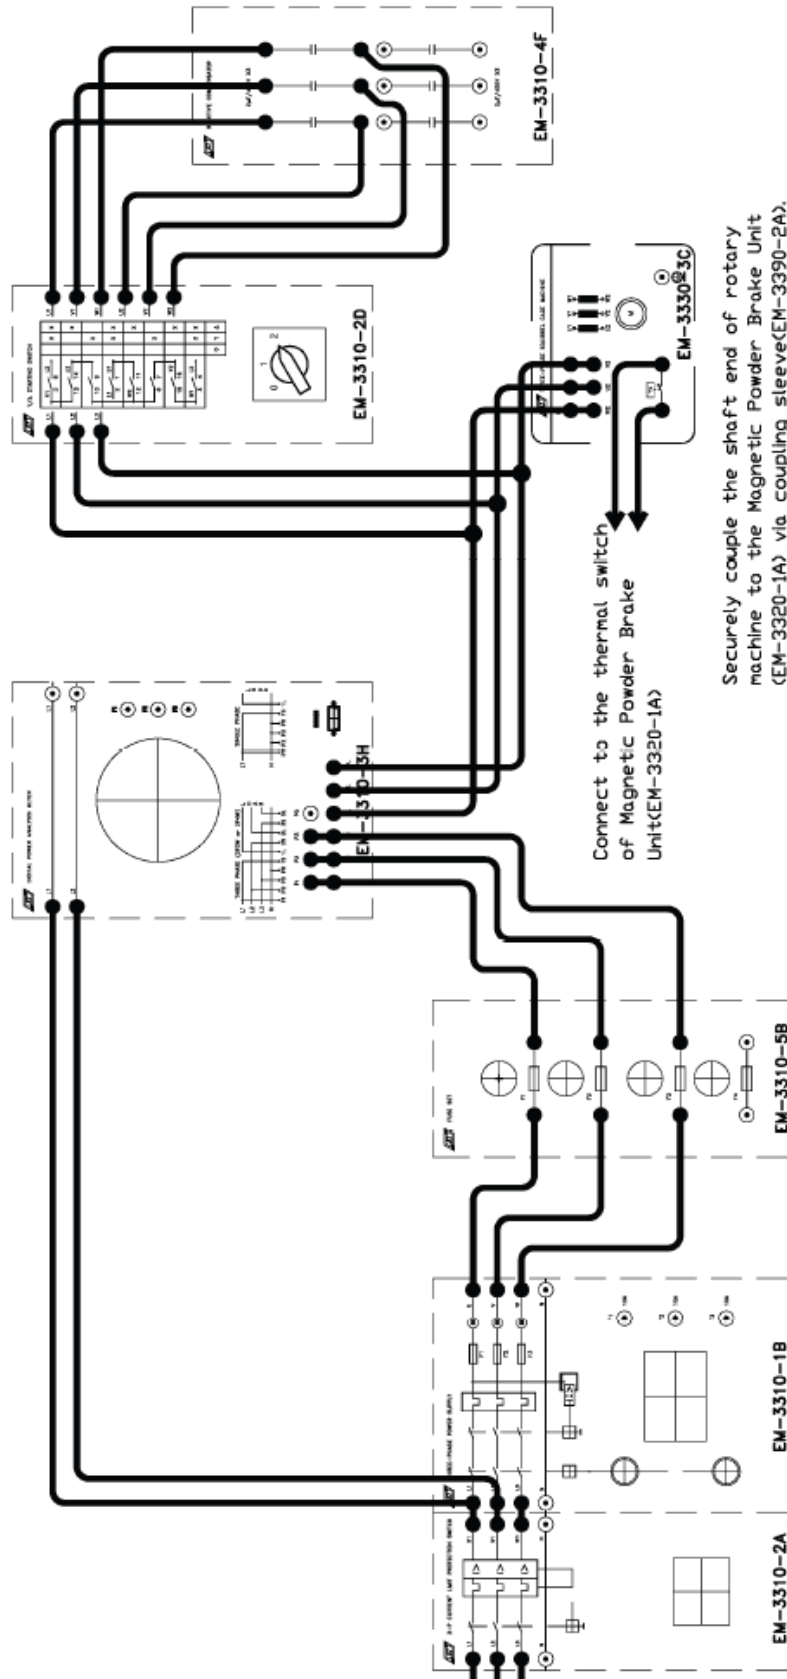

Fig. 12-3-2 Connection diagram for PF correction (2 μF capacitor)
2. Install the required Modules in the Experimental Frame. Construct the circuit in accordance with the circuit diagram in Fig. 12-3-1 and the connection diagram in Fig. 12-3-2. Have the instructor check your completed circuit. **Note:** The thermal switches of Single-phase Induction Motor and Magnetic Powder Brake Unit must be connected together.